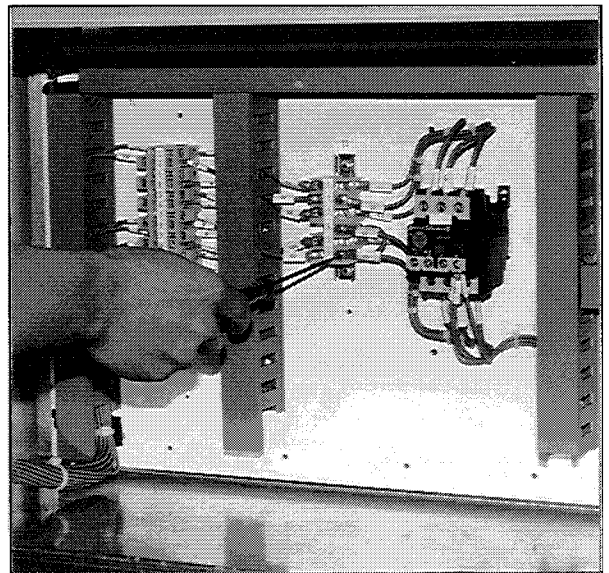

Fig. 43 Removing Current Transformer Shorting Jumpers
- ☐ Shorting jumpers (Fig. 43) for current transformer secondary windings must be removed once the secondary circuit is completed. A circuit transformer must not be operated with its secondary windings open.